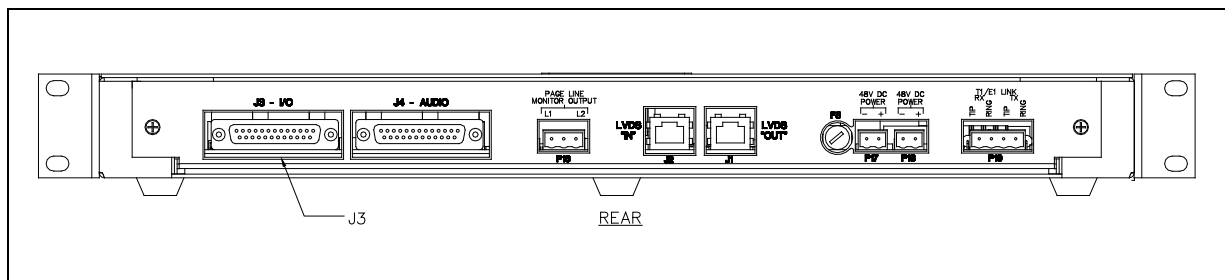

Figure 2. LE200-RM Line Extender Rear Panel
3. Plug the other end of the DB25 cable assembly into J3 (I/O) on the rear of the LE200-RM Line Extender as shown in Figure 2, and secure it by tightening the DB25 connector jackscrews.